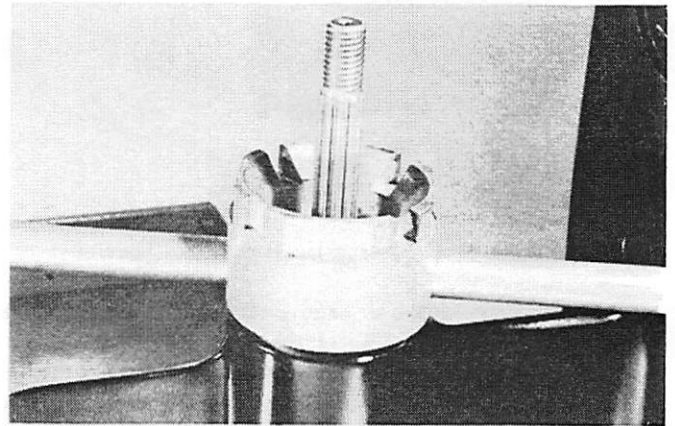

Figure 2. Removing Gear Case Cover
- end of propeller shaft and set tool into cover, turning counterclockwise (right hand thread) to loosen. (Figure 2) If tight, strike handle of tool with mallet to loosen.